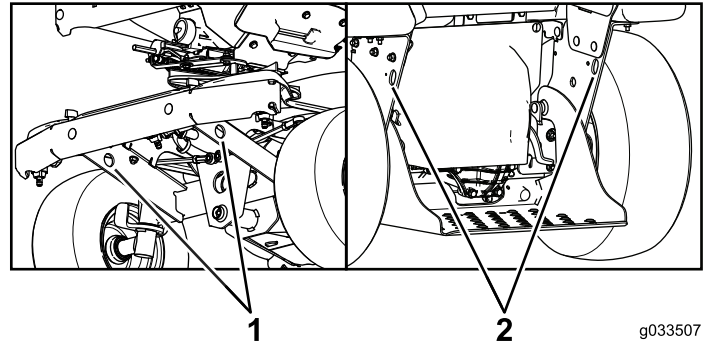

Figure 65
4. Use the tie-down points on the machine to securely bind the machine to the trailer or truck with straps, chains, cable, or ropes (Figure 65). Refer to local regulations for trailer and tie-down requirements.